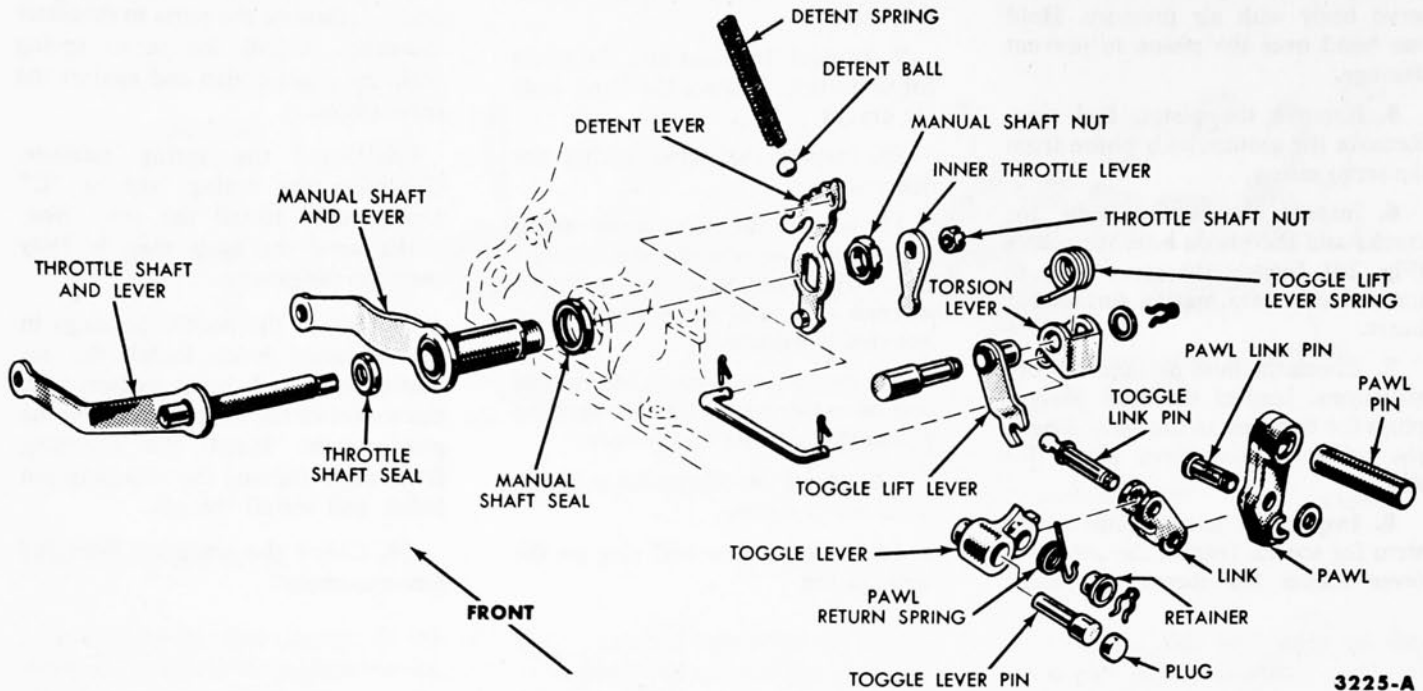

FIG. 25—Parking Linkage
1. Remove the inner throttle lever shaft nut (Fig. 25), then remove the inner throttle lever.
Check all linkage components for wear or damage (Fig. 25).